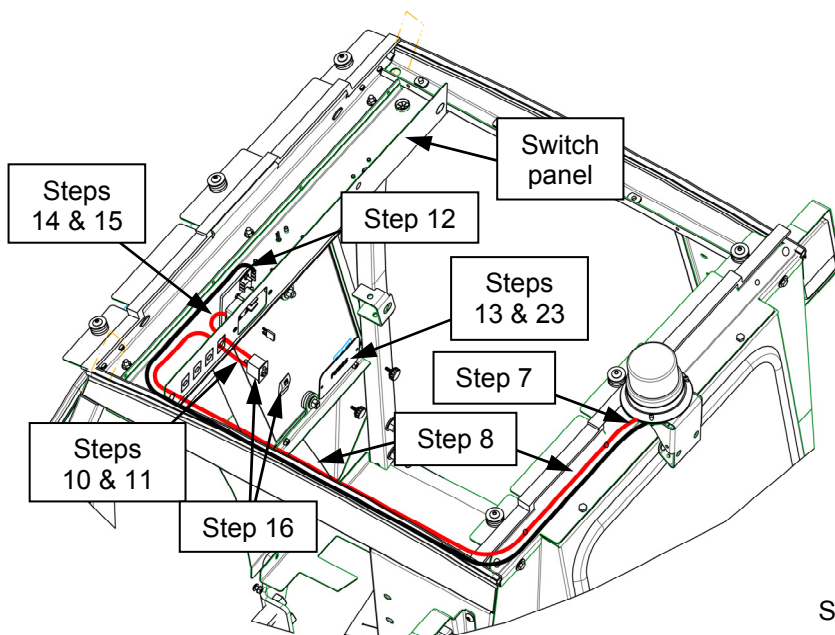

Figure 4
7. Connect beacon wire harness (13) to warning beacon.
11. Route red wire of beacon wire harness, through the rocker switch hole and connect to rocker switch (9) terminal 3 (**Figures 4 & 6**).
12. Connect black wire of beacon wire harness to fuse block (-12VDC) grounding terminal (**Figure 4 & 5**).
15. Route straight connector end of wire harness through switch knockout hole and connect to rocker switch (9) terminal 2 (**Figures 4 & 6**).
16. Attach switch actuator (10) to rocker switch (9) then install switch into knockout hole in switch panel (**Figure 4**).
17. Install 2 amp fuse (18) into fuse block location selected in Step 14 (**Figures 4 & 5**).